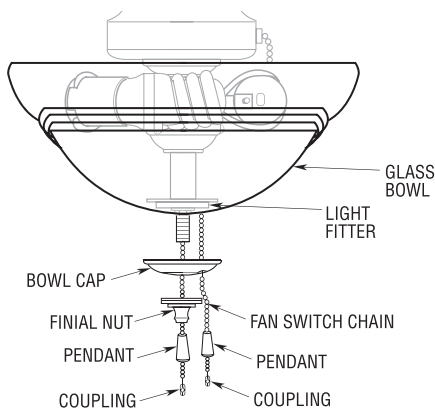

Figure 7
11. Install three 13-watt medium base compact fluorescent bulbs (included with fitter) or three 60-watt (maximum) medium base light bulbs into the fitter lamp sockets (Figure 7).
14. Gently place the glass bowl onto the base of the light fitter (Figure 7) with the switch chain(s) passing through the center hole.
- 16.** Install the finial nut onto the threaded light fitter by passing the fitter switch chain through the center hole in the finial nut. Firmly tighten the finial nut onto the threaded nipple of the light fitter (Figure 7).
- 17.** Connect the pendant (supplied) to the switch pull chain by sliding the wood pendant (small hole first) onto the pull chain. Attach the chain coupling to the end of the chain and allow the wood pendant to fall down over the coupling (Figure 7).